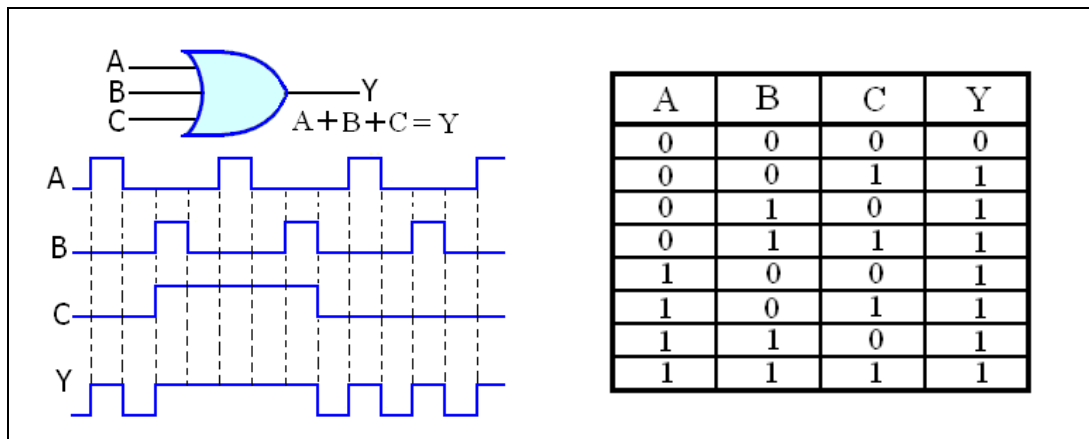

Fig. 3.2-7 Triple-Input OR Gate with Timing Diagram and Truth Table
**EXAMPLE:** For the three-input OR gate in Fig. 3.2-7, determine the output waveform in proper relation to the inputs.
Referring to Fig. 3.2-7, the output is HIGH when any of the inputs are HIGH.